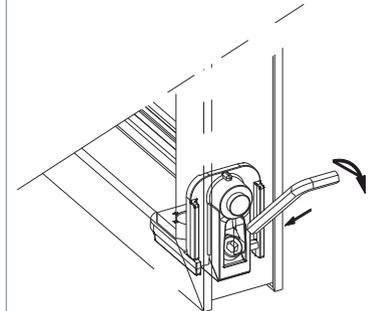

Fig. 2
3. Tighten the assembly using 5mm Allen Key as shown in fig.2.